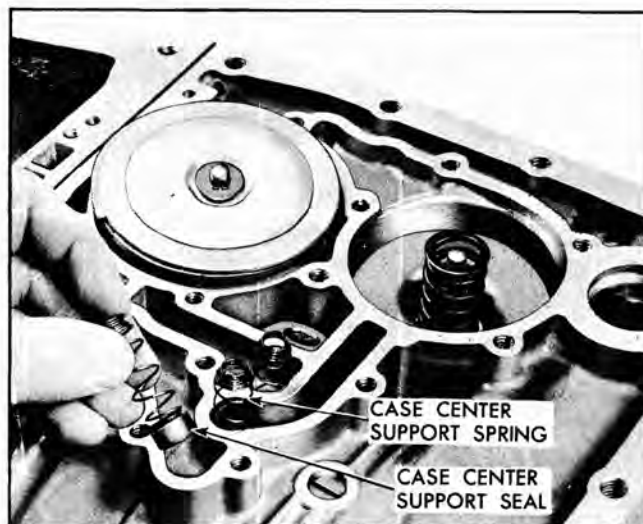

Fig. 44 Removing Case Center Support Seals
17. Remove the three (3) case center support springs and seals (Fig. 44). (Seals may have remained in transmission case.)